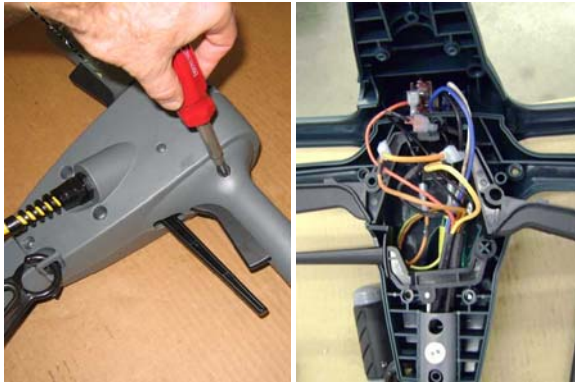

Fig. 6
- Separate the two handle grip halves by removing 8 screws (Figure 6).